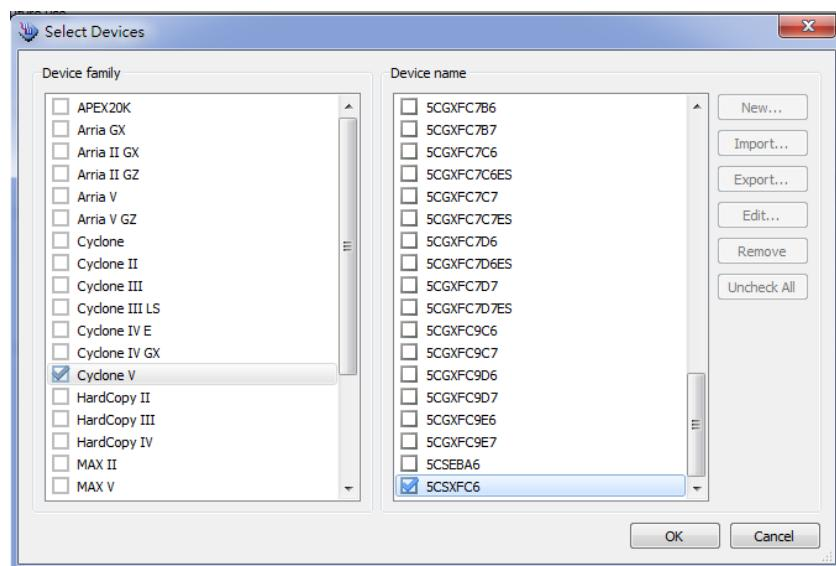

Figure 6-4. Select Devices Page
12. Select the targeted FPGA that you are using to program the serial configuration device. See **Figure 6-4**.